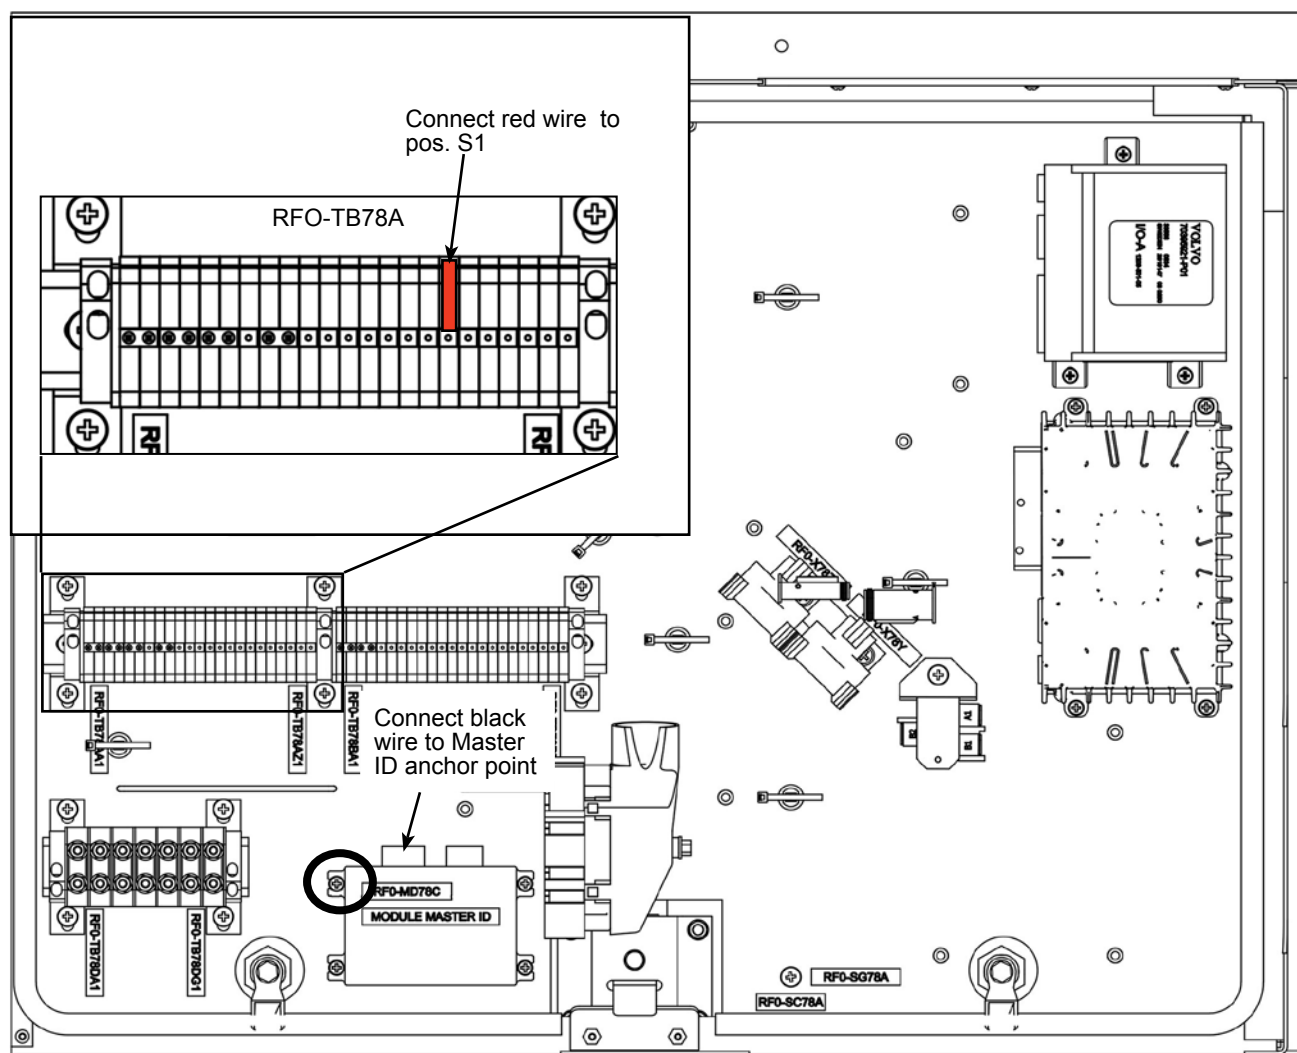

Figure 3 - Cable N64011 and N64009 Connection in Main Panel
- 1.14. Connect the red wire tagged **To BAT 24V SWITCHED** of cable N81735 to main panel terminal block RFO-TB78A-S1. See Figure 3.
- 1.16. Connect the black wire tagged **To GND** of cable N81735 to one of the anchor points used to maintain the **MASTER ID**. See Figure 3.
- 1.17. Disconnect cable **RF0-x78c2** from the Master ID module. See Figure 3.